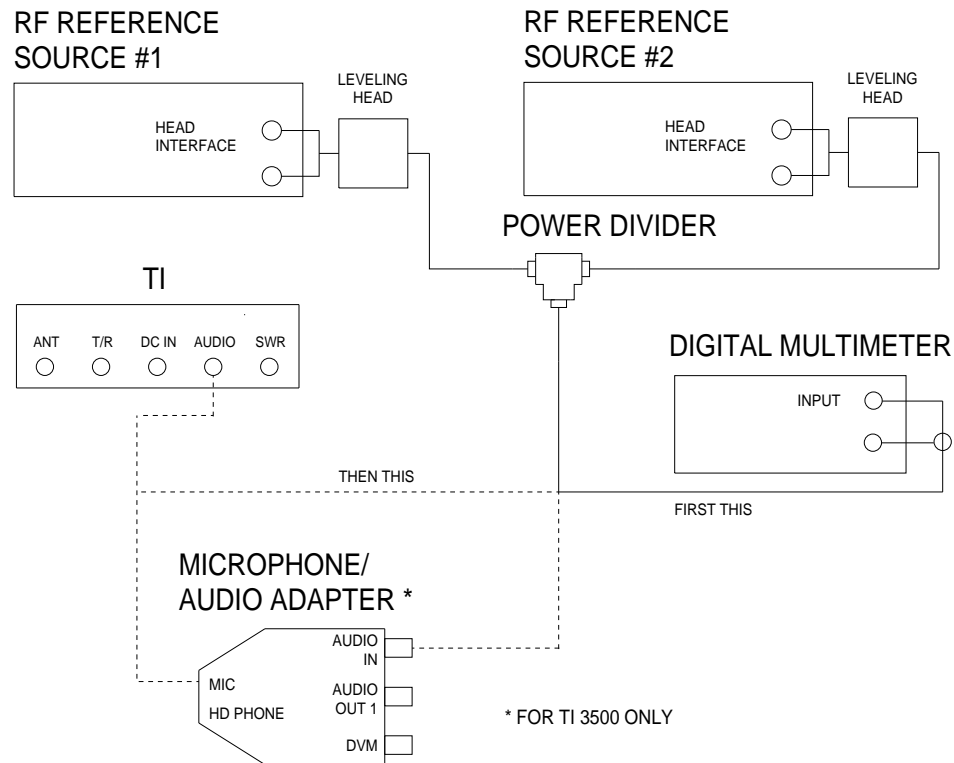

Figure 5.
4.3.5.3 Connect equipment as shown in Figure 5 with the Power Divider input connected to the Digital Multimeter input.
- 4.3.5.13 Set all outputs to minimum. Connect equipment as shown in Figure 5 with the Power Divider input connected to the Digital Multimeter input.